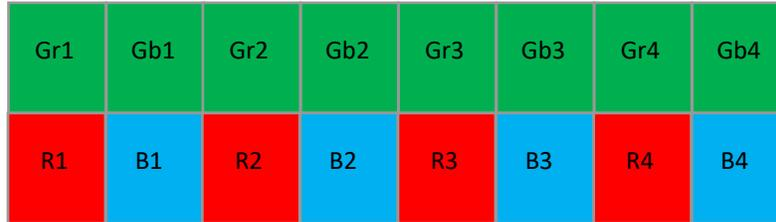

Figure 84: Sensor pixel array.
4. On the blue channel of the dark-subtracted blue image, average all even-numbered pixels and save as B (refer to Figure 84).
5. On the red channel of the dark-subtracted red image, average all odd-numbered pixels and save as R (refer to Figure 84).